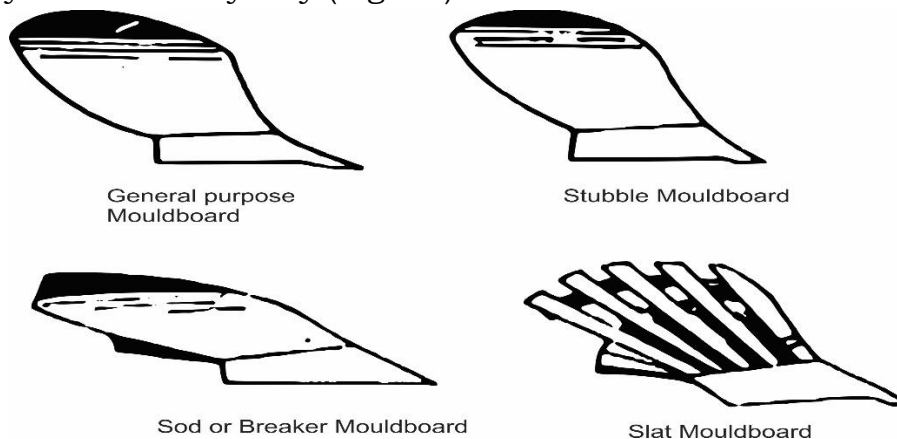

Fig.3.5: Different types of Mouldboard
- (e) Slatted:** This plough type is used for very sticky soils. The surface is slatted so that it scours better in difficult soil conditions such as loose, sticky soil and waxy clay (Fig.3.5).